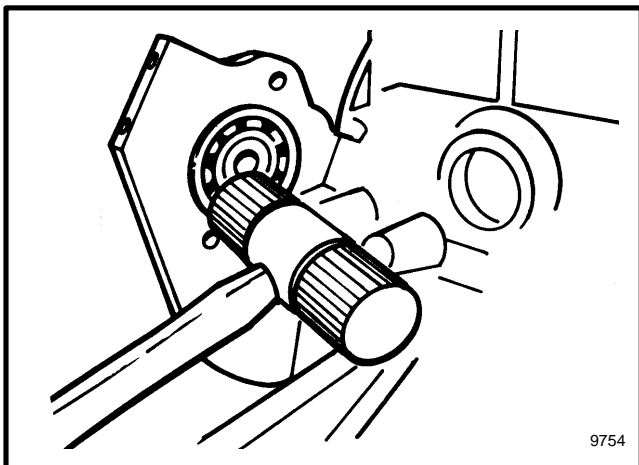

FIGURE 29. BEARING INSTALLATION, HYDRAULIC PUMP GEAR
- h. Install the inner bearing for the hydraulic pump drive gear as shown in FIGURE 29. Install the retainer plate for the bearing and install the hydraulic pump.